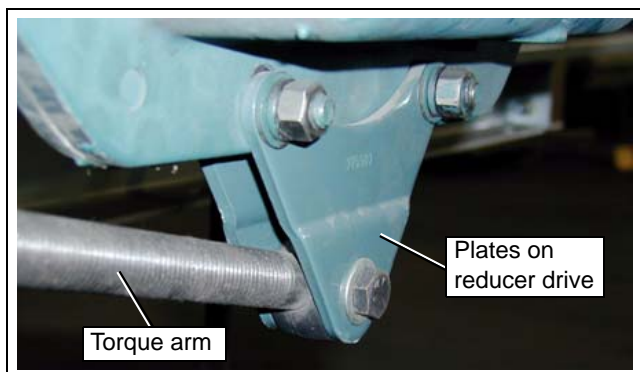
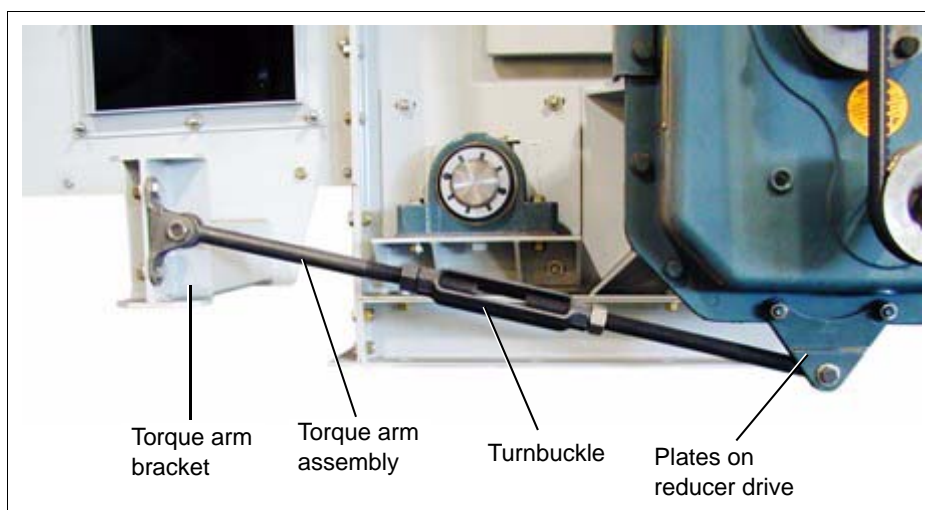
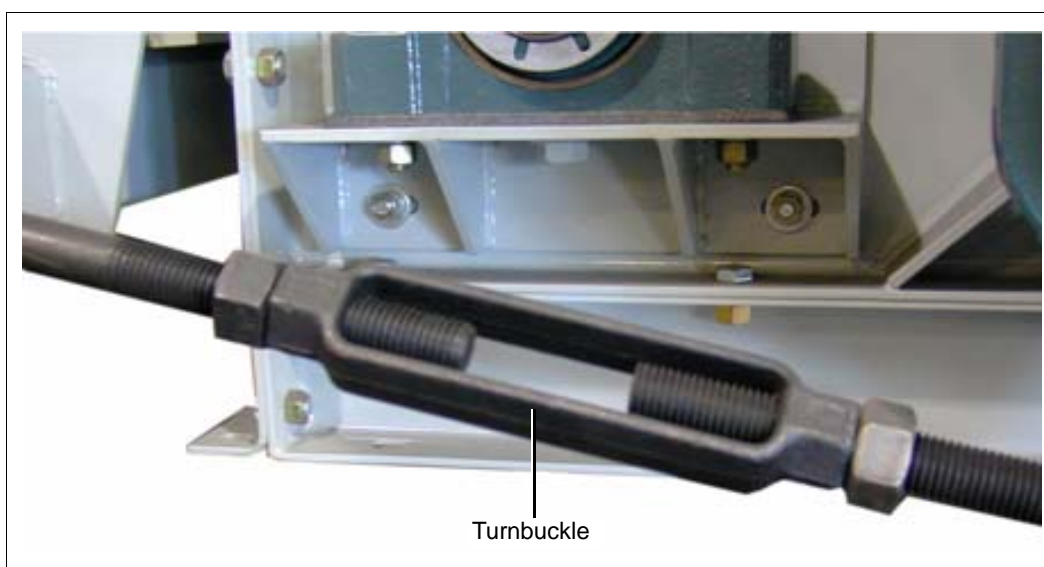

Figure 6K
Figure 6M
Figure 6N
Install the torque arm turnbuckle between the two (2) plates that are located on the bottom of the reducer drive. (See Figure 6M on Page 21.) Secure using bolt with washer and lock nuts. (See Figure 6K on Page 21.) Attach the other end to the torque arm bracket on the conveyor using two (2) bolts, washers, and lock nuts. Tighten the torque arm by turning the turnbuckle. (See Figure 6N on Page 21.) Adjust the position of the reducer.
The torque arm bracket is mounted under the first intermediate section. Locate bracket by matching an existing set of holes in the intermediate side that allows the turnbuckle assembly to be as short as possible with the reducer in a vertical position. (See Figure 6M on Page 21.)